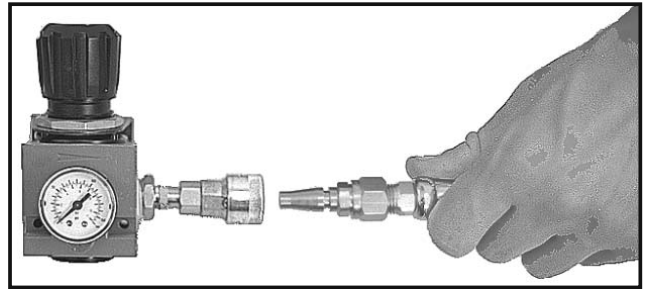

Fig. 1.
1. Connect the air supply hose to the air source supplying Grade D breathing air. (Fig. 1.).